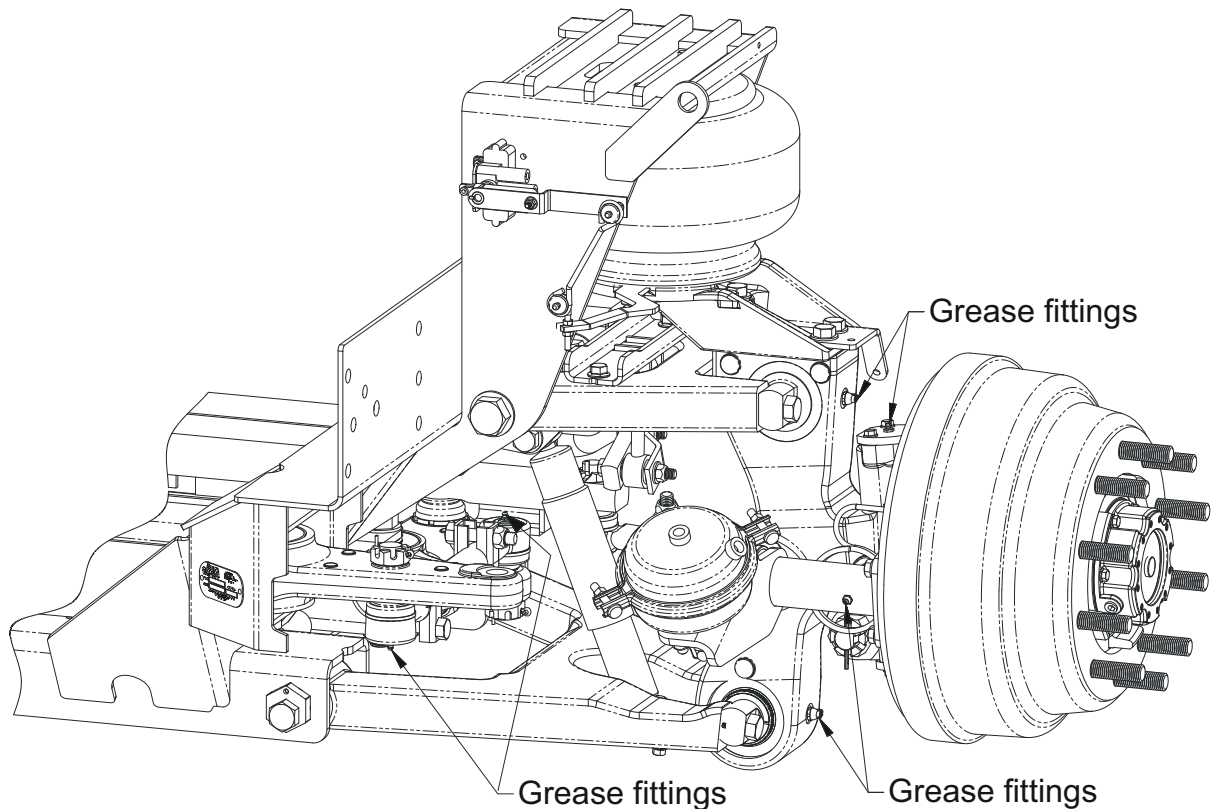

Figure 4 – Location of lubrication fittings. Note: Left side only shown.
2. Apply lubricant to grease fitting until new lubricant discharges from the dust boot (Figure 4).
2. Apply lubricant to the S-cam tube until new lubricant discharges from the S-camshaft bushing seal next to the automatic slack adjuster. (Figure 4).
3. Apply lubricant to the automatic slack adjuster until new lubricant discharges from the cone clutch adjacent the adjusting hex nut. (Figure 4).